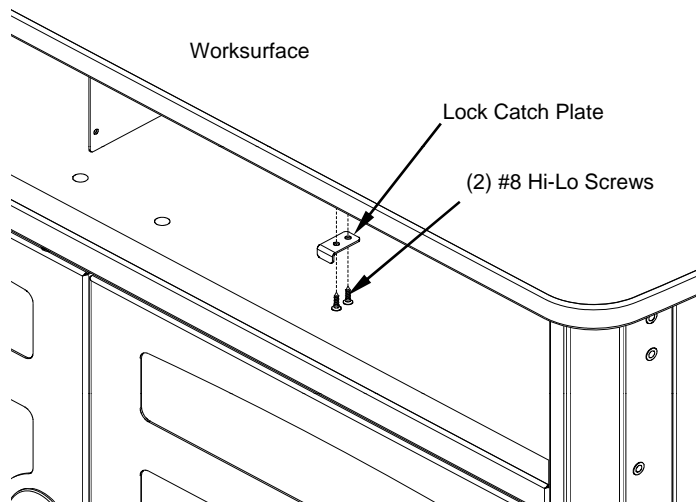

Figure 3
- B. Attach the Lock Catch Plate using (2) #8 Hi-Lo Screws as shown in **Figure 3**. Tighten securely.